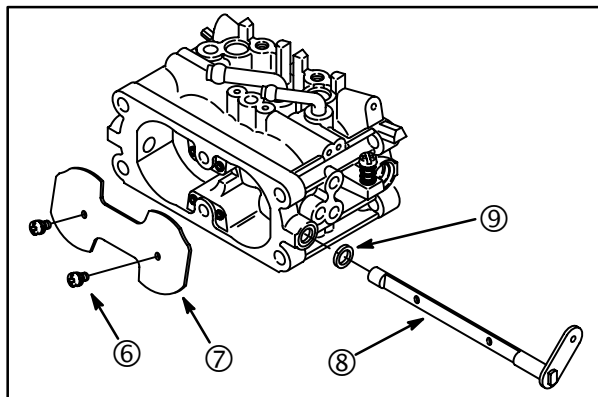

Fig. 69
3. Install new choke shaft seal (9), **Fig. 69**, with sealing lip out.
4. Install choke shaft (8).
5. Install choke plate (7).